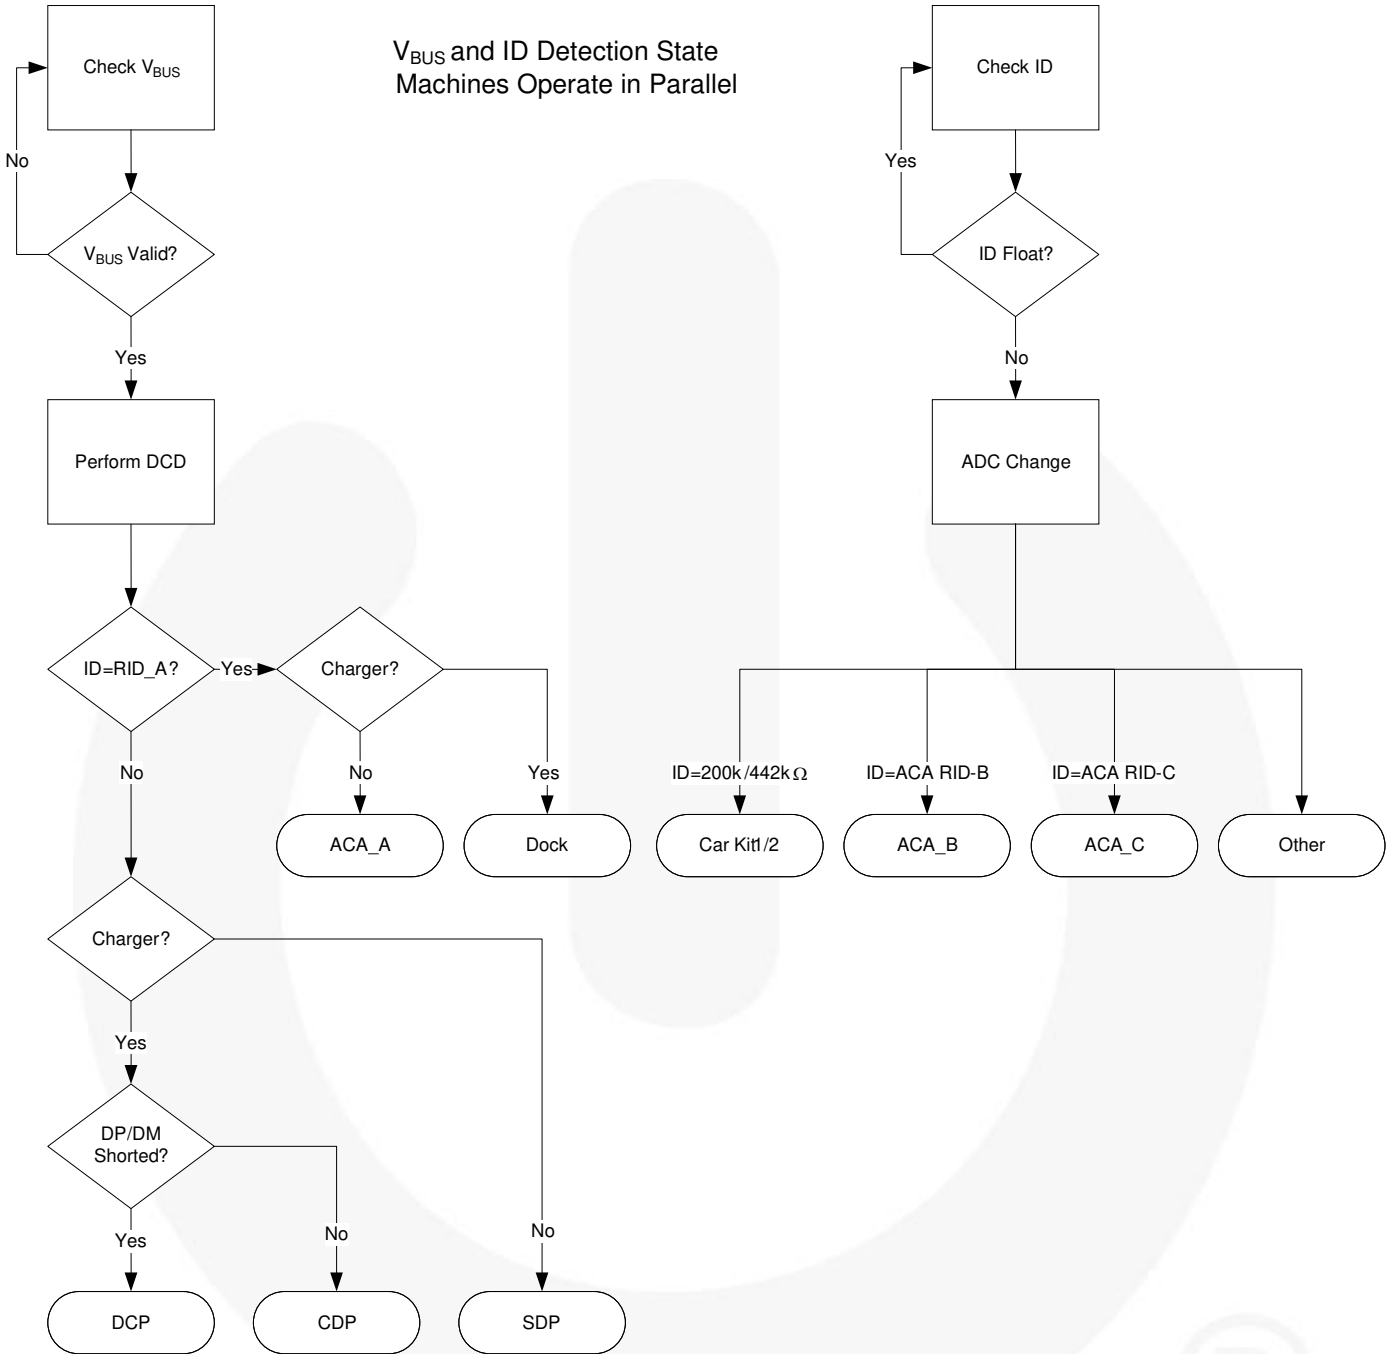

Figure 6. Accessory Discovery State Machine Flow Diagram
The USB detection flow is show in Figure 6. Note that the INTB Mask bit in the Control register must be cleared after a reset or
3. Figure 6 illustrates operation with a valid V_{DDIO} supply voltage. Figure 6 does not illustrate Dead Battery Provision (DBP) See Section 9 for details.